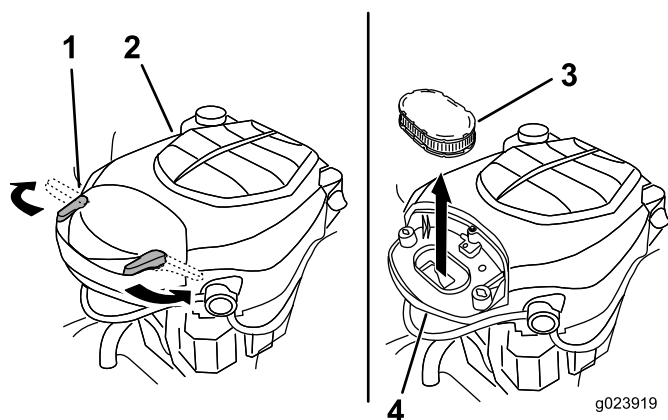

Figure 27
2. Remove the cover to access the air cleaner element (Figure 27).
6. Install the cover and secure it with the latches (Figure 27).